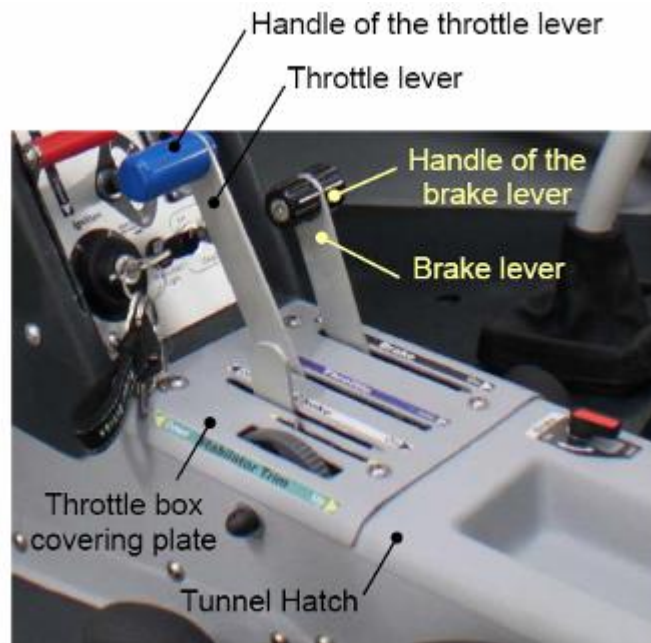

Fig. 4-4
- a. Remove the handles of the brake lever and of the throttle lever, Fig. 4-4;